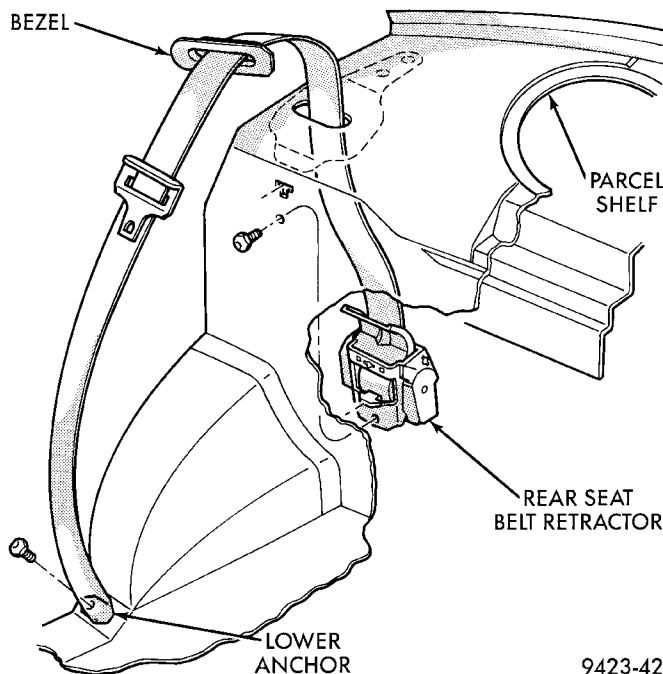

Fig. 67 Rear Seat Belt Retractor
- (1) Remove rear seat cushion and back.
- (2) Remove seat belt bezel from parcel shelf cover.
- (3) Remove rear seat closure panel silencer pad as necessary to gain access to retractor.
- (4) Remove bolt holding seat belt lower anchor to floor.
- (5) Remove bolt holding retractor to rear seat closure panel (Fig. 67).
- (6) Push seat belt bezel and buckle stab through access hole in parcel shelf.
- (7) From in luggage compartment, separate rear seat belt retractor from vehicle.